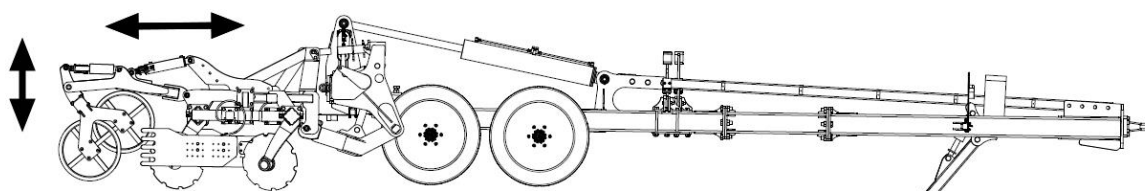

Figure 36 Adjusting the height and angle of attack of the operating rollers.
5. Once the machine has been unfolded on the chassis, the alignment of the working rollers with respect to the machine must be carried out using hydraulic actuators. The entire process is carried out using hydraulic actuators that determine the height of the rollers and their angle of attack relative to the ground, and turnbuckles fitted to the machine's wing drawbars (fig. 36).